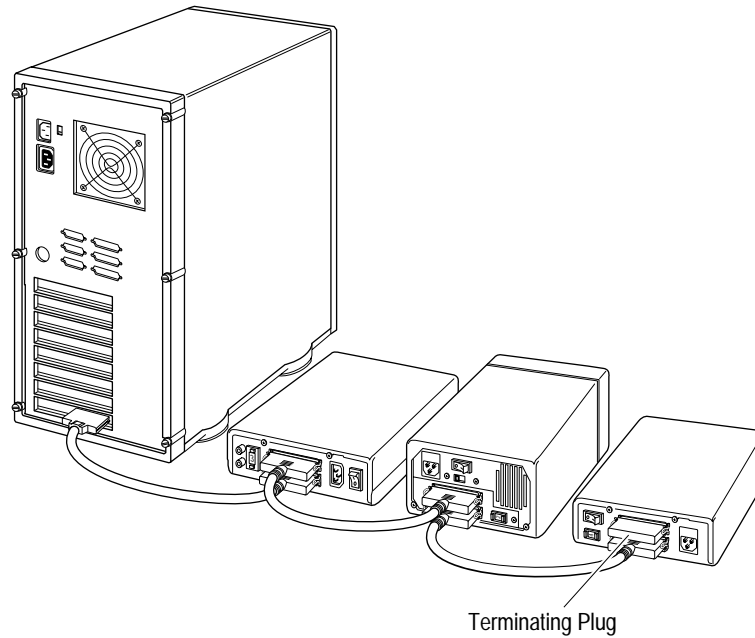

Figure 2-9. Attaching Multiple External Devices
- 4 Connect other external SCSI devices by daisy-chaining each device to the previous device until all external SCSI devices have been connected, as shown in Figure 2-9. (The device at the end of the chain must have a terminating plug installed. See *SCSI Termination* on page 2-14 for additional information.)